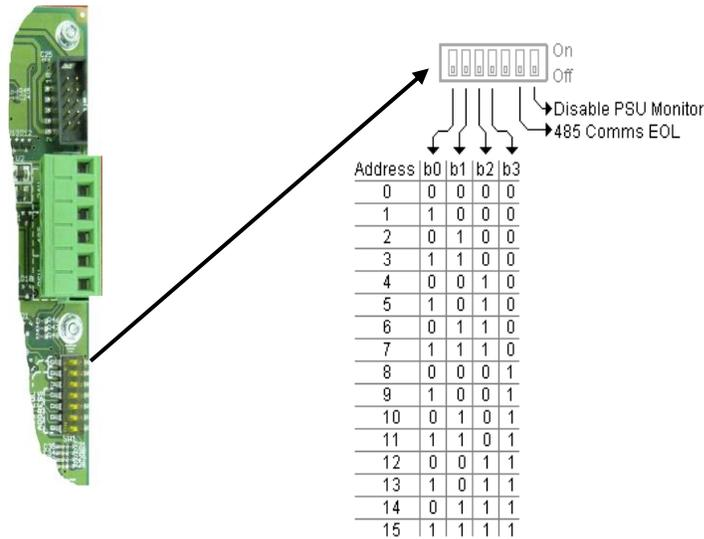
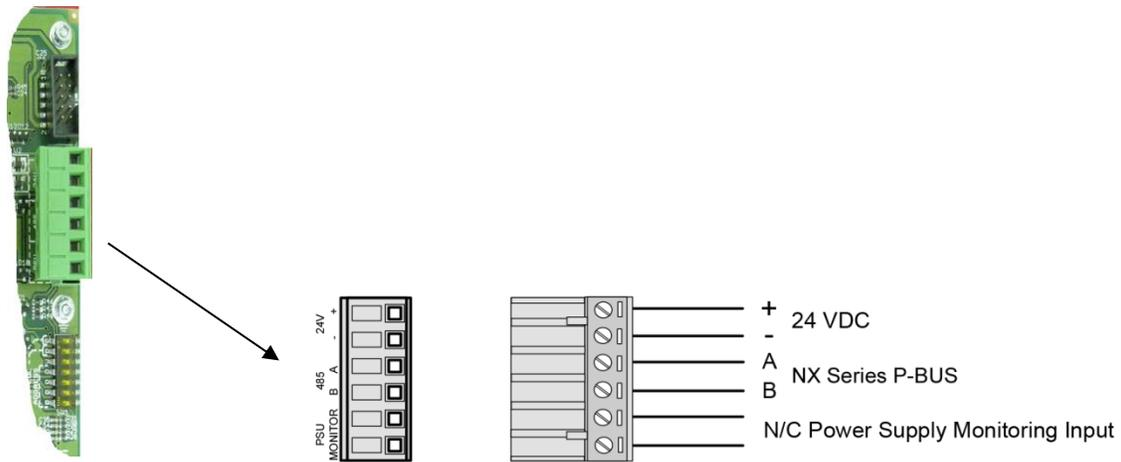

Figure 38 – Switch LED Module Addressing
Figure 39 – Switch LED Module Wiring
Each switch LED module must be connected to the NX-FACP-1L, NX-FACP-2 or NX-FACP-4 intelligent fire alarm control panel's NX-FACP base card P-BUS (RS485). As the switch LED modules reside on the NX-FACP PBUS (RS485), each module must be configured with a unique address (see figure 38). The address setting corresponds to PBUS programming criteria utilized within the PC-NeT field configuration program.
24 VDC power for switch LED modules can come from any fire alarm listed 24 VDC filtered and regulated power supply (NX-FACP AUX [non resettable] power, NX-EM-PSU-6, NX-PSU or other fire alarm listed power supply). Wire 24 VDC filter regulated power to terminals + and – of the switch LED module (see figure 39).
**Note: The Switch LED Module is capable of monitoring a remote listed 24 VDC filtered regulated power supply for trouble conditions. Wire the trouble N/O contact (fail-safe [closed unless trouble]) to PSU monitoring terminals of the switch LED module (see figure 39) and confirm DIP switch 7 “Disable PSU Monitoring” of the Switch LED Module is set to the “OFF” position (see figure 38).**
Connect the PBUS (RS485) terminals A and B of the NX-FACP base card to the 485 (PBUS) A and B input terminals of the switch LED module (see figure 39). If this is the last module connected to the NX-FACP PBUS (RS485), set DIP switch 6 “485 Comms EOL” on the Switch LED Module to the “ON” position (see figure 38).